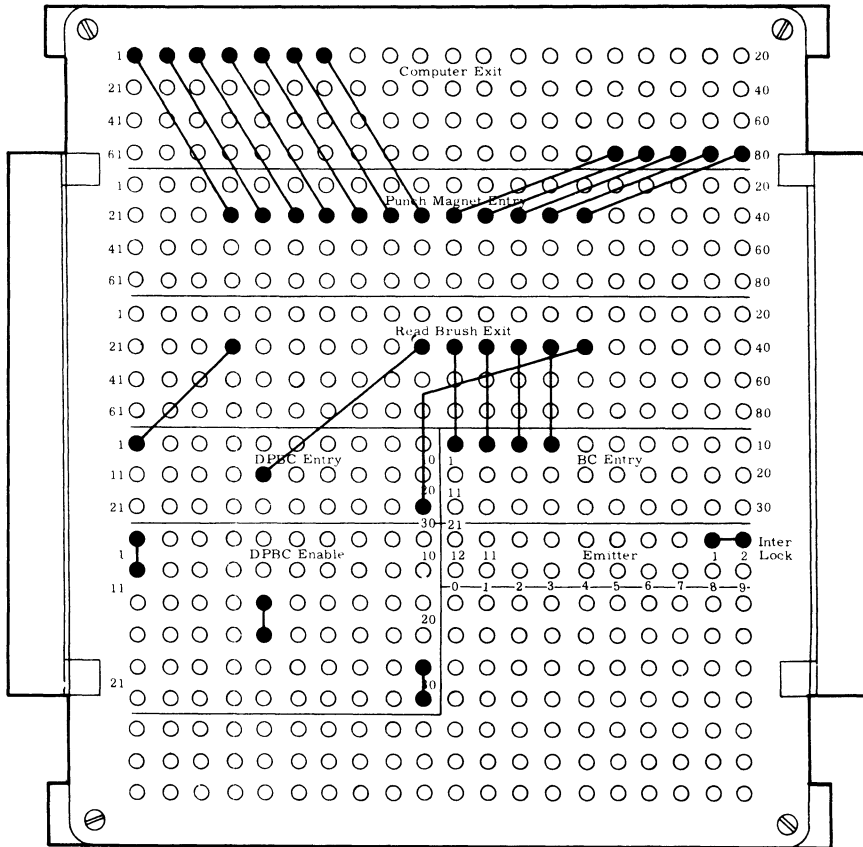

Figure 40. Plugboard Wiring for Blank Columns
4. In either mode of operation, to have the internal logic test a particular card column for a blank condition, plug from the READ BRUSH EXIT hub corresponding to the desired column number to any of the BC ENTRY hubs. (See Figure 40.)